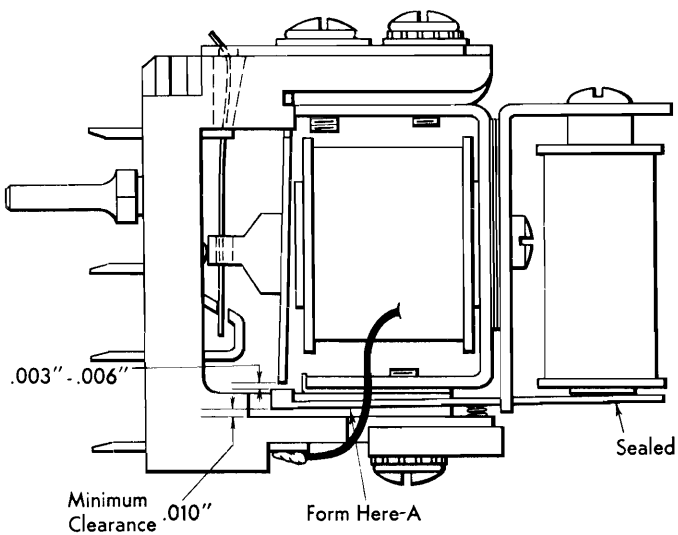

Figure 27. Adjustment 8
8. Figure 27. With the latch magnet energized, the latch armature should clear the relay armature by .003" to .006" at the latch point. At the same time check for a minimum clearance of .010" between the bottom of the latch armature and the relay moulding as there should not be any interference with the movement of the latch armature at this point. If any change is necessary, form the latch armature at point A.